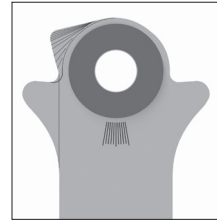

fig. 15
2. Place the second sliding washer **slightly** greased on both sides onto the system stirrup (fig. 15).